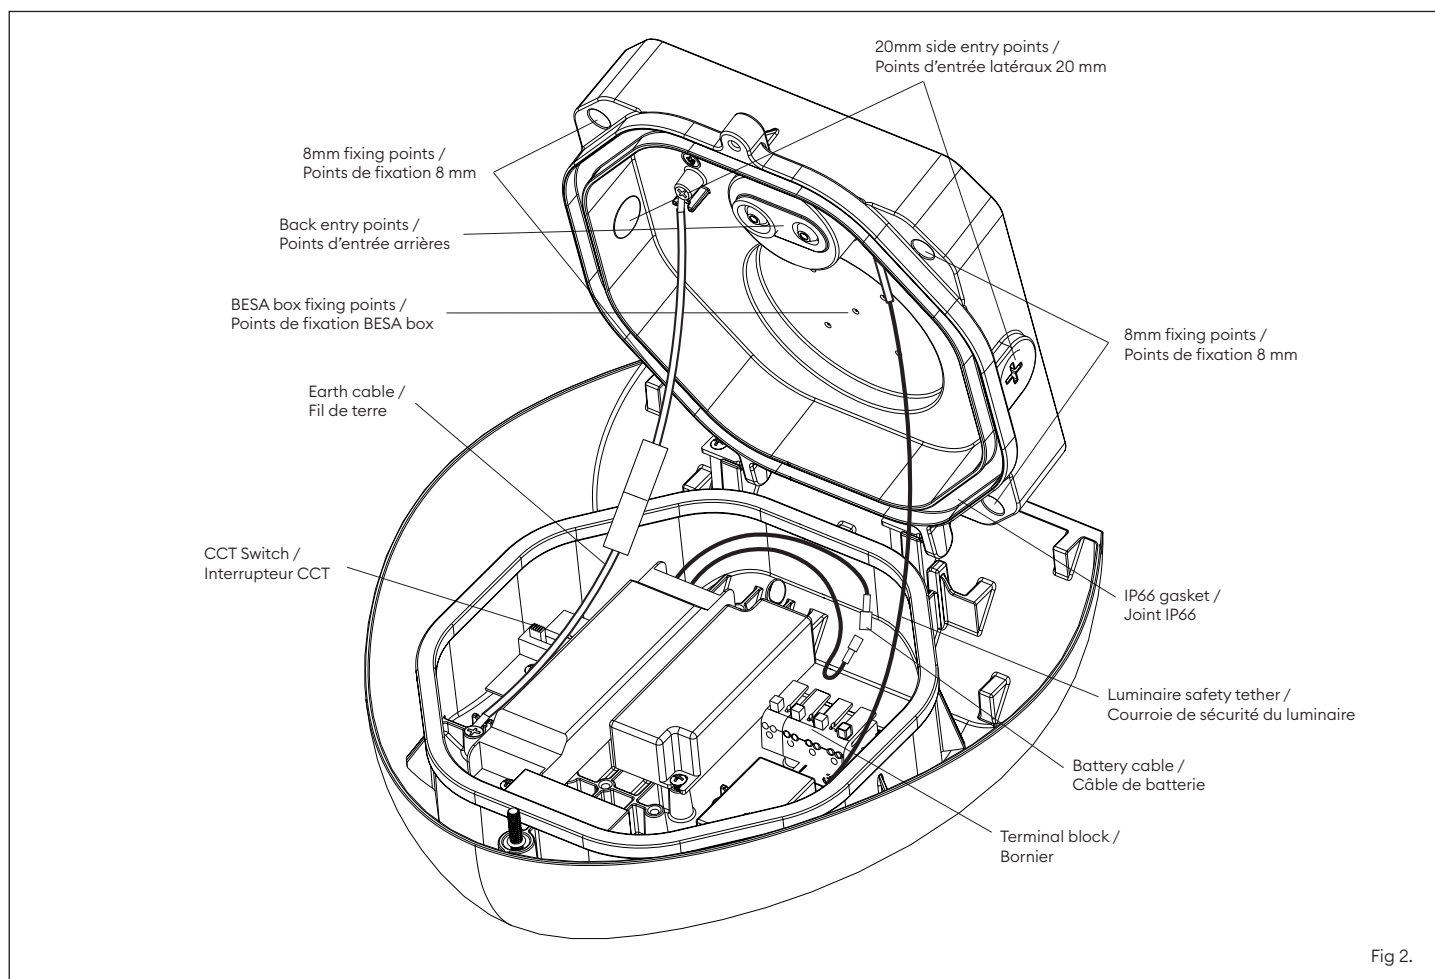

Fig 2.
9. Connect the battery cable (Fig 2).
10. Set required colour temperature, default is 3000K, see Fig 2 for location of the switch.